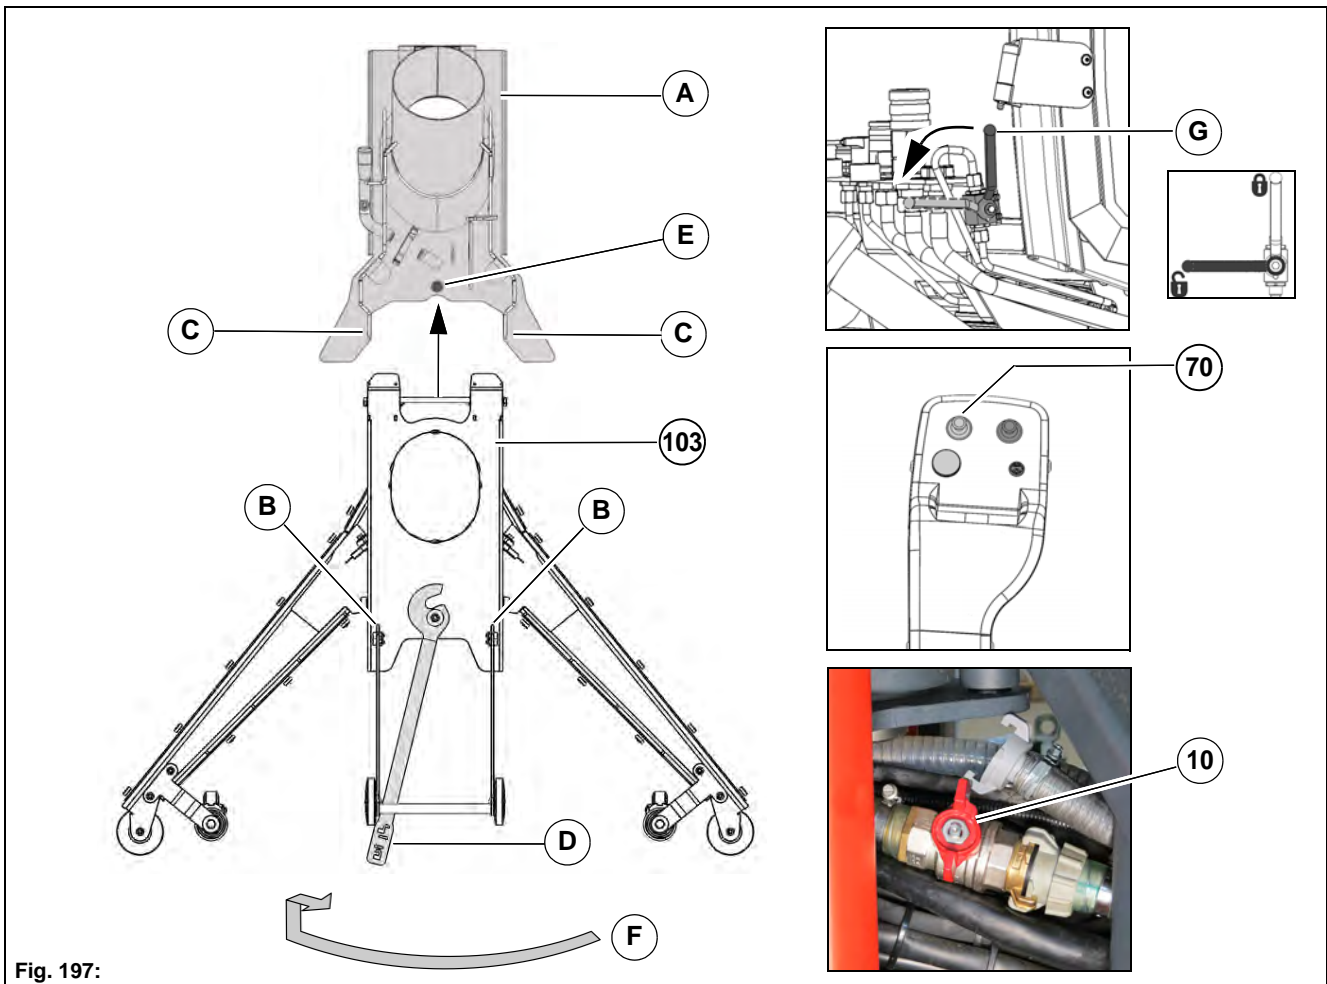

Fig. 197:
3. Remove the squeegee **Fig. 197-103** from the trolley and position it by hand centrally under the holding plate **Fig. 197-A**.
4. Open the ball cock **Fig. 197-G**. Push the joystick **Fig. 197-70** forwards. When the ball cock is open, the holding plate is lowered onto the squeegee.
5. Shift the squeegee centrally under the holding plate until the stops **Fig. 197-B** come up to the points **Fig. 197-C**.
6. With the lever **Fig. 197-D** lock and secure the squeegee on the counter bearing **Fig. 197-E** of the holding plate, see sketch **Fig. 197-F**.